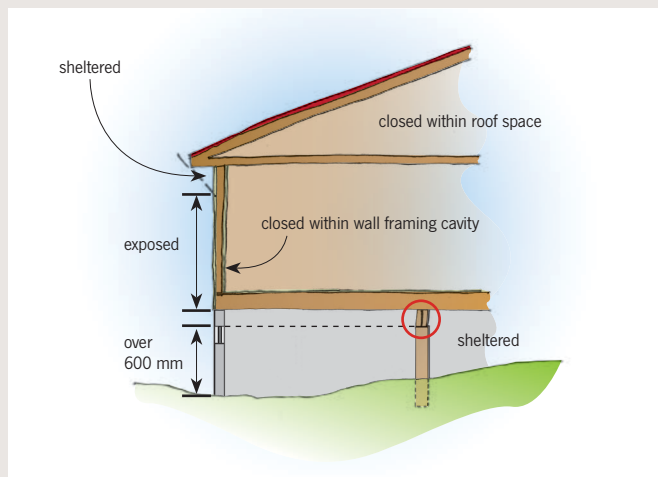

Figure 1: A concrete foundation in zones B or C restricts the subfloor ventilation so the location is sheltered.
- Subfloors vented $7,000 \text{ mm}^2/\text{m}^2$ or less are considered sheltered (see Figure 1) and require galvanised fixings as per Table 4.2.